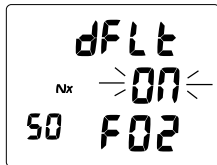

Fig. 21 - SET FO2 DEFAULT
**SET FO2 50% DEFAULT**, information includes (Fig. 21):